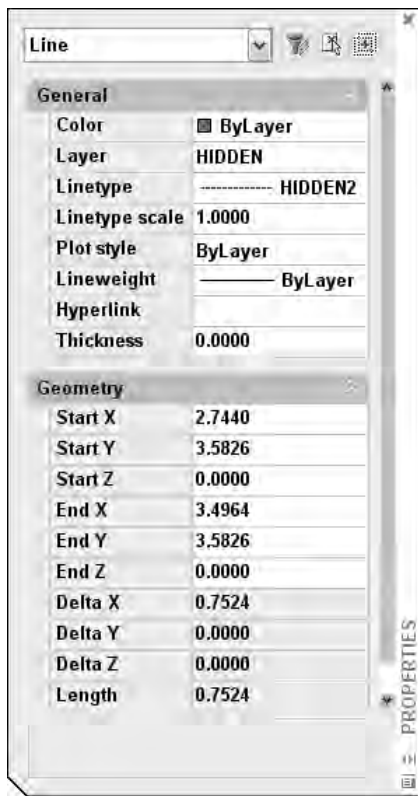

Figure 11-21: The Properties palette
- ♦ If you want to change other properties at the same time, select the object and choose Properties from the Standard toolbar. AutoCAD opens the Properties palette, shown in Figure 11-21. In this window you can change all the properties of the object. To change the color, choose Color and click the drop-down arrow that appears. Choose the color that you want.
- ♦ Select the object and choose Properties from the Standard toolbar. AutoCAD opens the Properties palette, shown earlier in Figure 11-21. To change an object's linetype, click Linetype, and then click the drop-down arrow that appears. Choose from one of the linetypes.